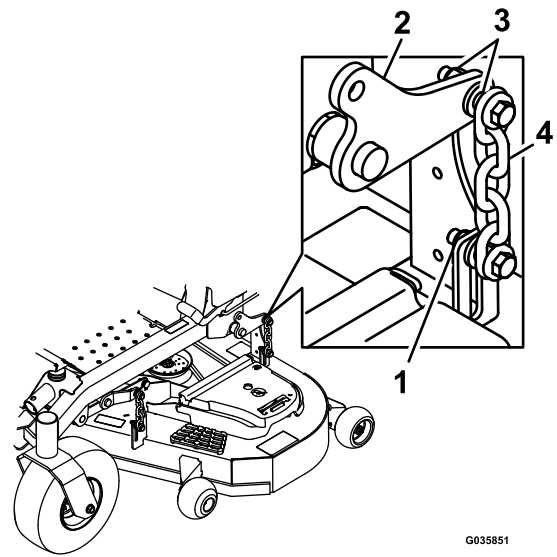

Figure 75
13. Loosen the locknuts (Figure 75) on all 4 corners and ensure that the mower deck is sitting securely on all 4 blocks.